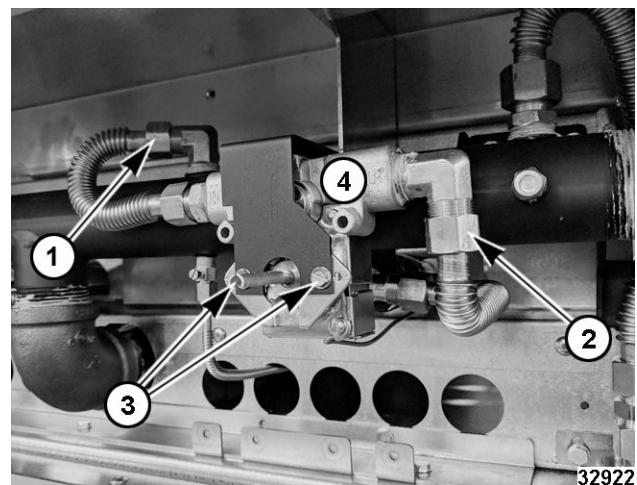

Fig. 100
6. Loosen inlet (1, Fig. 100) and outlet (2, Fig. 100) compression nuts.
7. Remove mounting screw (3, Fig. 100).
8. Remove thermostat body and capillary tube assembly (4, Fig. 100).